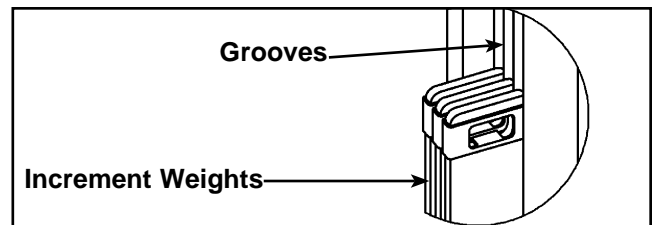

Figure 13
- I. Reinstall the six increment weights that were removed in step 6B. See Figure 13.